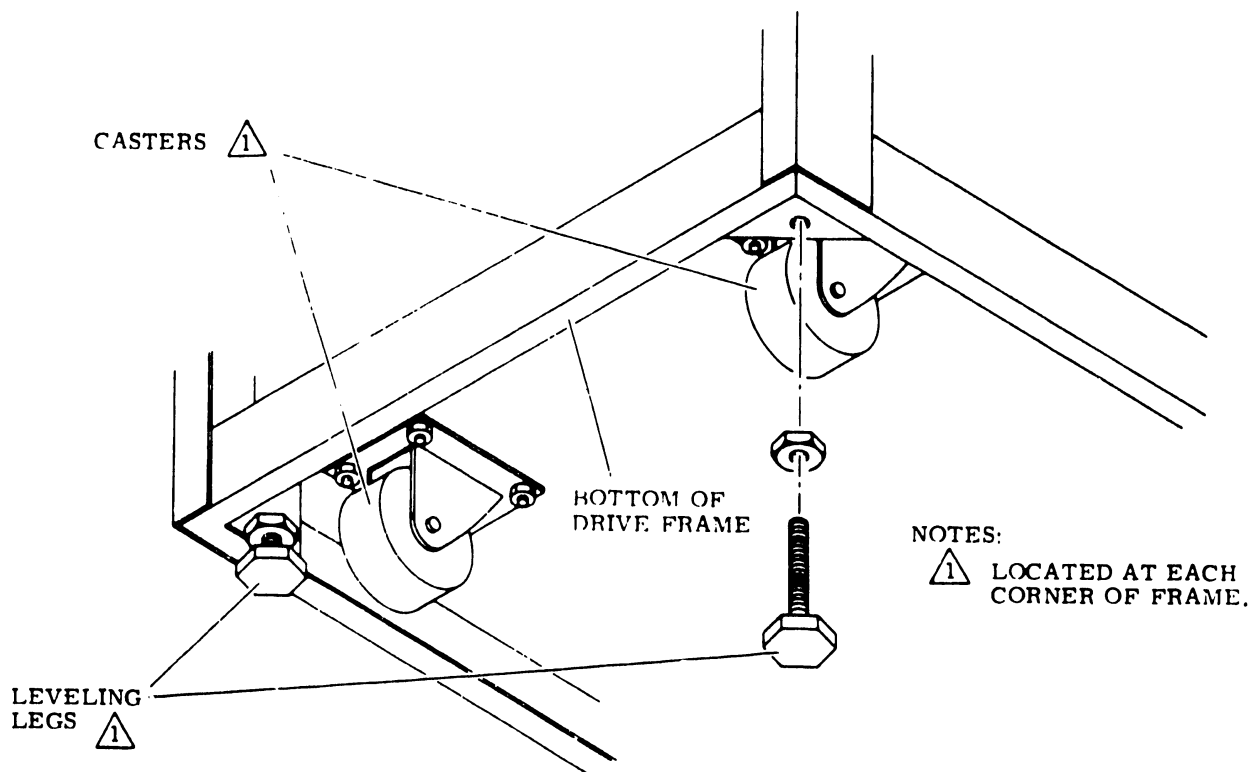

FIGURE 4-17 LEVELING PAD INSTALLATION
- A. Install a jam nut on each leveling pad; then install a leveling pad at each corner of the cabinet frame (see Figure 4-17) by raising the corners of the cabinet and threading the pads into the corresponding weld nuts on the frame.